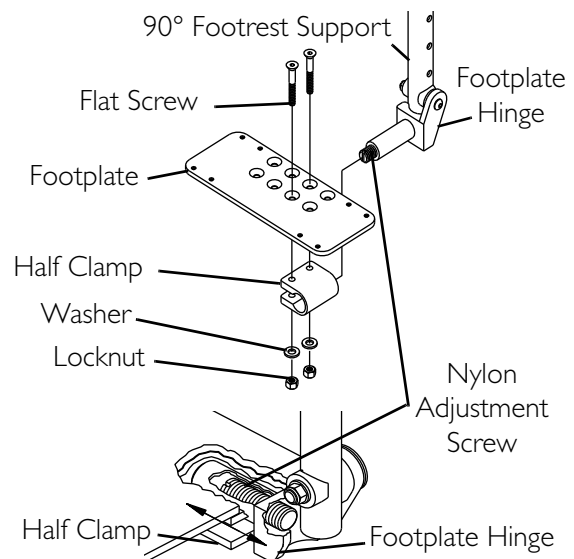
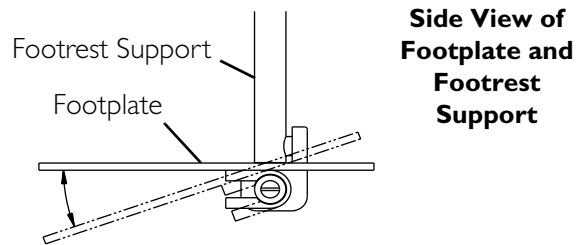
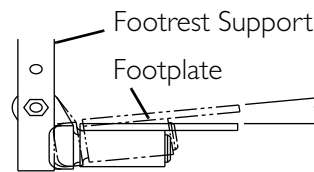

FIGURE 6.10 Installing Adjustable Angle Flip-up Footplates
FIGURE 6.11 Angle Adjustment
FIGURE 6.12 Perpendicular and/or Inversion/Eversion Adjustment
NOTE: For this procedure, refer to FIGURE 6.10.
NOTE: For this procedure, refer to FIGURE 6.10 on page 29.
NOTE: For this procedure, refer to FIGURE 6.10 on page 29 and FIGURE 6.11.
1. Loosen, but DO NOT remove, the two flat screws, washer and locknuts that secure the footplate to the footplate hinge (FIGURE 6.10).
2. Position the footplate to the necessary angle to accommodate the user (FIGURE 6.11).
NOTE: For this procedure, refer to FIGURE 6.10 on page 29 and FIGURE 6.12.
1. Insert a flathead screwdriver through the half clamp on the footplate (FIGURE 6.10).
2. Slowly turn nylon adjustment screw in or out until footplate is perpendicular to the footrest assembly or the desired inversion or eversion is obtained (FIGURE 6.12).